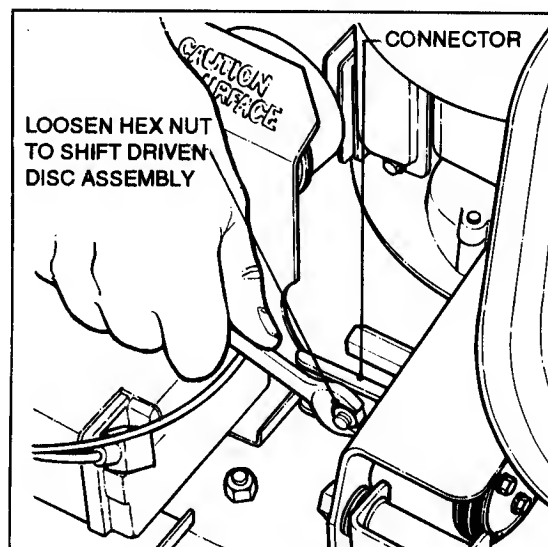

FIGURE 2.13
- (d) To re-adjust, loosen the connector hex nut - connector is slotted for driven disc assembly movement. See Figure 2.13.